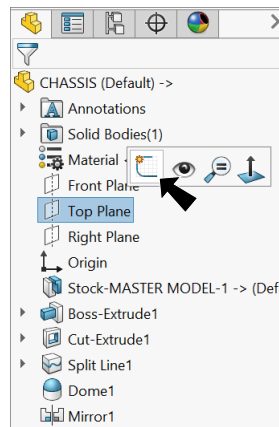

Fig. 28
Step 1. Click **Top Plane**  in the Feature Manager and click **Sketch**  on the context toolbar, **Fig. 28**.